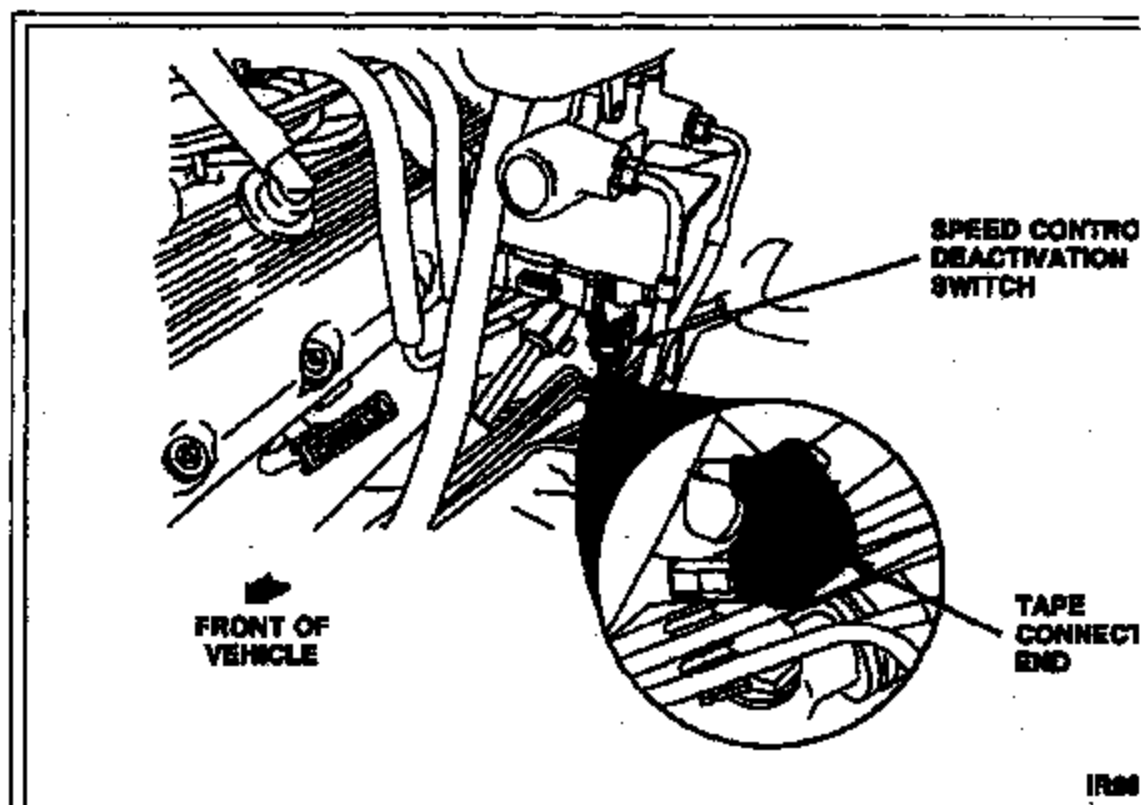

Figure 1
2. Disconnect the electrical connector from the speed control deactivation switch. See Figure 1.